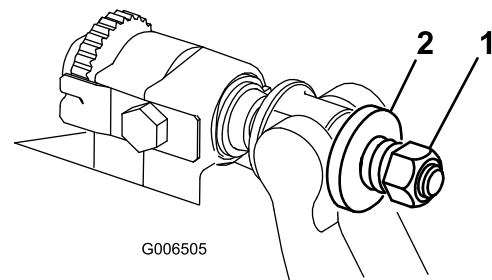

Figure 32
4. Tighten the spring tension nut until the spring is collapsed, then back off 1/2 turn (Figure 32).